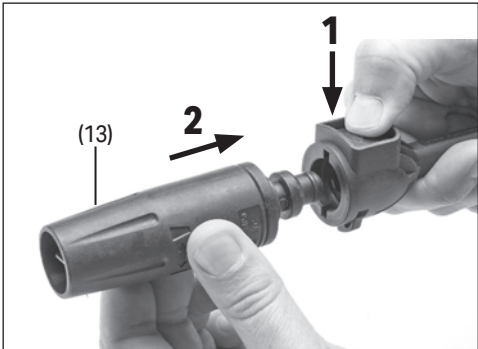

Fig. 4
2. Attach the variable spray nozzle (13) to the end of the lance – Fig. 4.